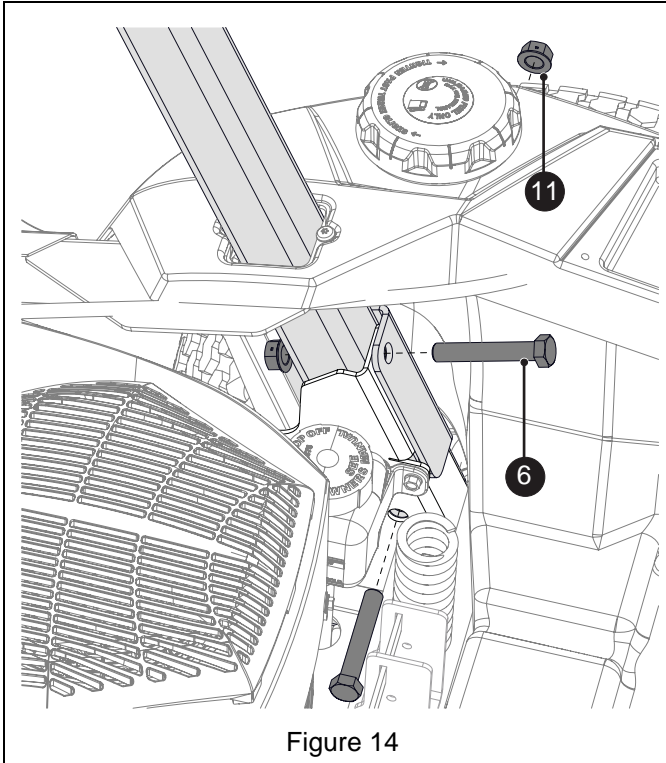

Figure 14
9. Attach tube with two 1/2 x 3" hex bolts (item 6) and two 1/2" center-lock flange nuts (item 11). Fully tighten hardware. See Figure 14.